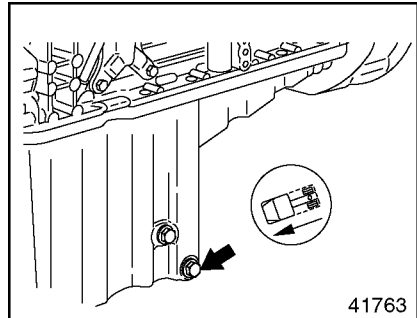

Figure 45 Engine Oil Drain Plug, Oil Pan
3. Place a suitable receptacle beneath the oil drain plug on the underside of the oil pan. Carefully unscrew the oil drain plug on the oil pan and allow the oil to drain out. See Figure 45. Discard the O-ring on the oil drain plug.